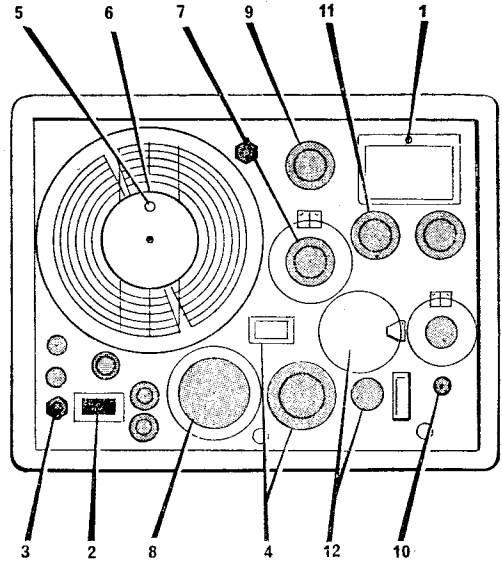

Fig. 10. CW operation
19. CW operation. Refer to figure 10. Check the meter zero and adjust —1. Connect supply —2, switch on —3, and allow to warm up (about 20 mins). Set required frequency range —4. Adjust “set cursor” control —5 to bring the upper cursor to the arrow —6. Turn the fine frequency control —7 to zero. Adjust main frequency dial —8 as required. Switch —9 to crystal check and plug headphones into jack —10. Readjust —8 for zero beat at the nearest check point to the frequency required. Reset cursor —5 to correct dial reading. Turn —8 to the required frequency. Switch —9 to CW and adjust the “set carrier” control —11 to bring meter to “set c.w.”. Adjust the level controls —12 for the required output voltage.